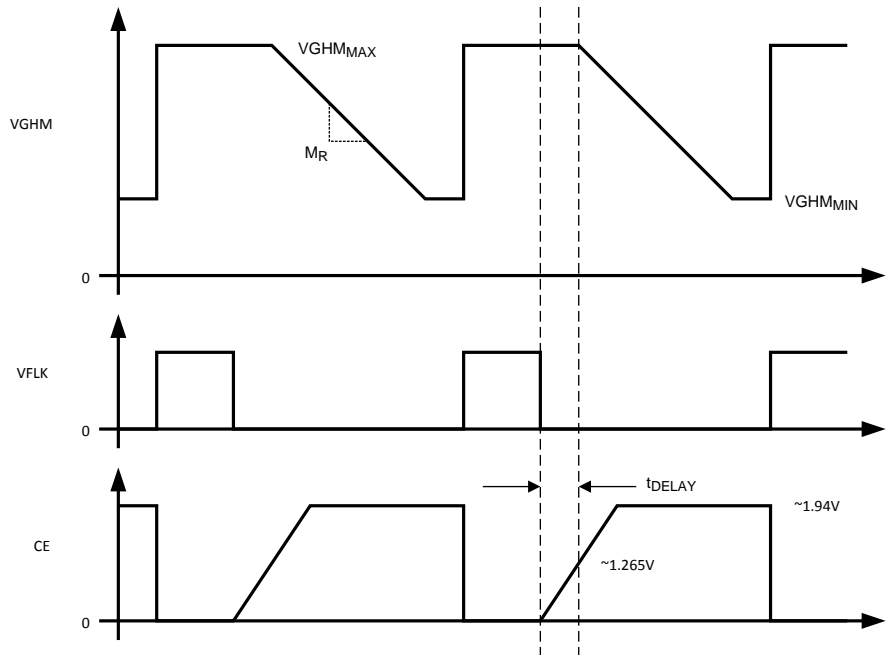
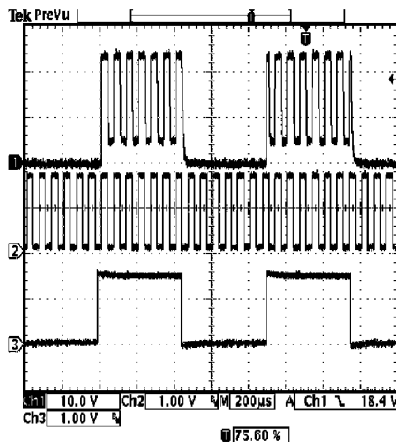

Figure 57.
Figure 58. Waveform
The Gate Pulse Modulation (GPM) block is designed to provide a modulated voltage to the gate driver circuitry of a TFT LCD display. Operation is best understood by referring to the GPM block diagram in the Block Diagrams section, the drawing in Figure 57 and the transient waveforms in Figure 58 and Figure 59.
When VDPM is high, typical waveforms for the GPM block can be seen in Figure 57. The pin VGH is typically driven by a 2x or 3x charge pump. In most cases, the 2x or 3x charge pump is a discrete solution driven from the SW pin and the output of the boost switching regulator. When VFLK is high, the PMOS switch P2 is turned on and the PMOS switch P3 is turned off. With P2 on, the VGHM pin is pulled to the same voltage applied to the VGH pin. This provides a high gate drive voltage, VGH_{MAX} , and can source current to the gate drive circuitry. When VFLK is high, NMOS switch N3 is on which discharges the capacitor CE.
When the voltage on CE reaches about 1.265V and the VFLK signal is low, the PMOS switch P2 will turn off and the PMOS switch P3 will turn on connecting resistor R3 to the VGHM pin through P3. This will discharge the voltage at VGHM at some rate determined by R3 creating a slope, M_R , as shown in Figure 57. The VGHM pin is no longer a current source, it is now sinking current from the gate drive circuitry.
Figure 58 and Figure 59 give typical transient waveforms for the GPM block. Waveform (1) is the VGHM pin, (2) is the VFLK and (3) is the VDPM. The output of the boost switching regulator is operating at 8.5V and there is a 3x discrete charge pump (~23.5V) supplying the VGH pin. In Figure 58 and Figure 59, the VGHM pin is driving a purely capacitive load, 4.7nF. The value of resistor R1 is 15kohm, R2 is 1.1k Ω and R3 is 750 Ω . In both transient plots, there is no C_E delay capacitor.